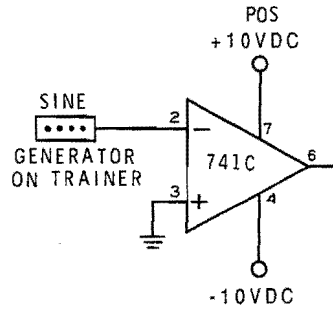

Figure 3-30
22. Construct the circuit shown in Figure 3-30. Turn on the Trainer.